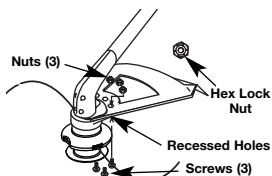

Fig. 4
2. Place a hex lock nut into one of the three recessed holes on the top of the cutting attachment shield (Fig. 4).
3. Install a screw into the hole from the bottom of the cutting attachment shield and screw it into the nut installed in step 2 (Fig. 4). Do not tighten.